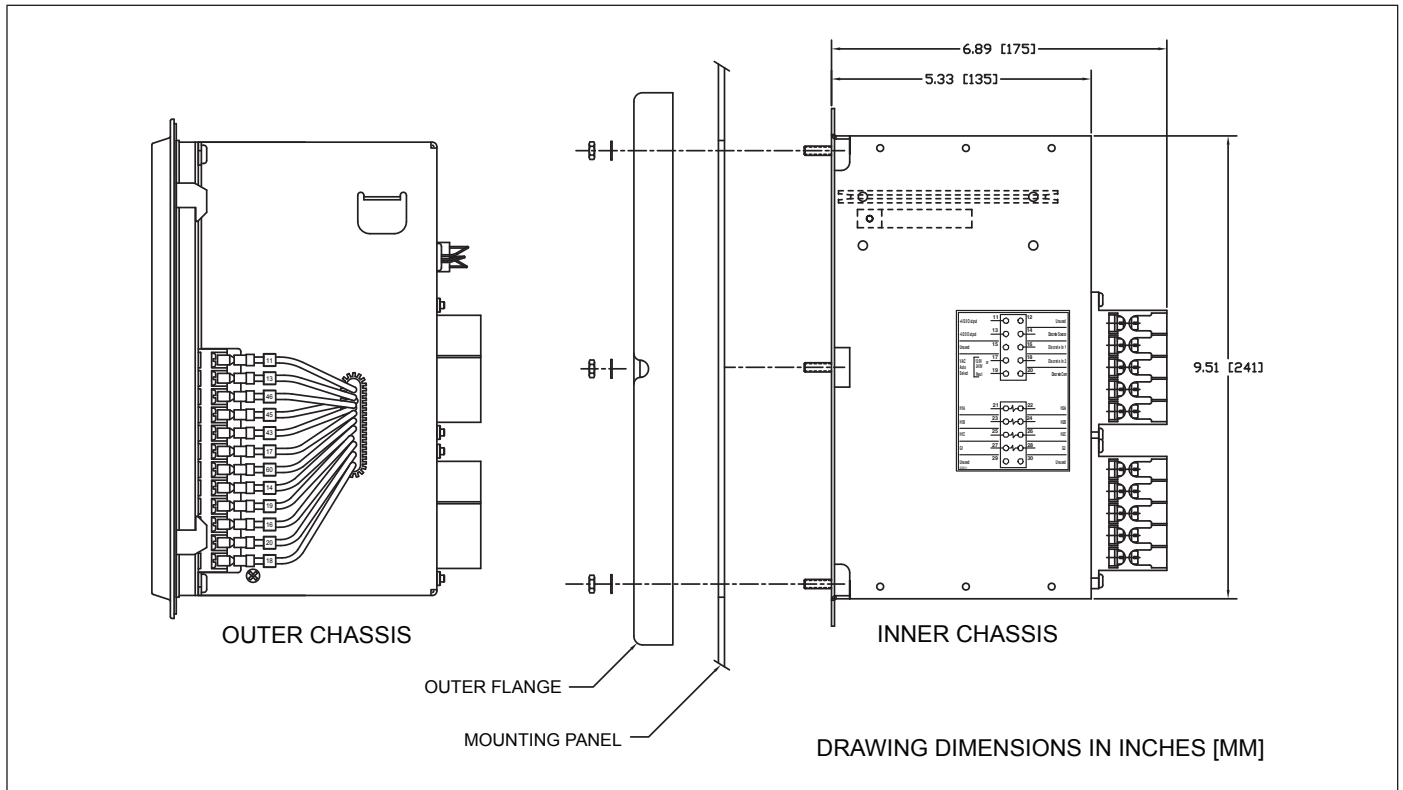

Figure 13.2 MP-3000 Drawout Panel Mounting.
Before mounting the Drawout Relay, check the contents of the box against the parts listed in Table 13.3 and shown in Figure 13.2.
2. Place the outer case flush against the backside of the panel so that the case studs project through their respective holes. Figure 13.2 shows the panel mounting diagram.